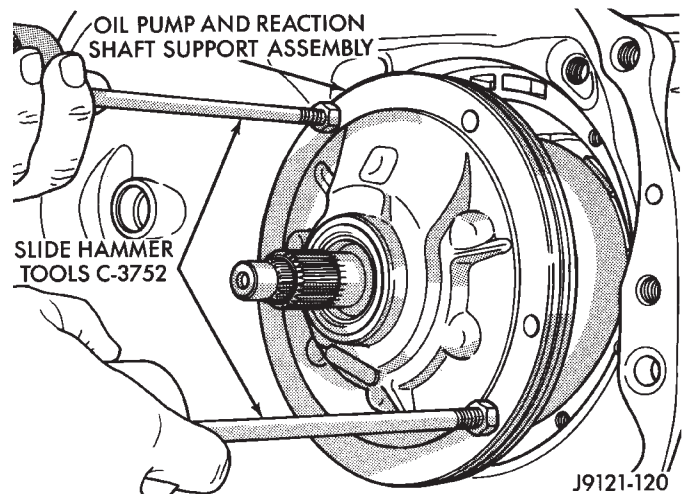

Fig. 101 Removing Oil Pump And Reaction Shaft Support Assembly
(14) Remove oil pump bolts.
(15) Thread bolts of Slide Hammer Tools C-3752 into threaded holes in pump body flange (Fig. 101).
(16) Bump slide hammer weights outward to remove pump and reaction shaft support assembly from case (Fig. 101).